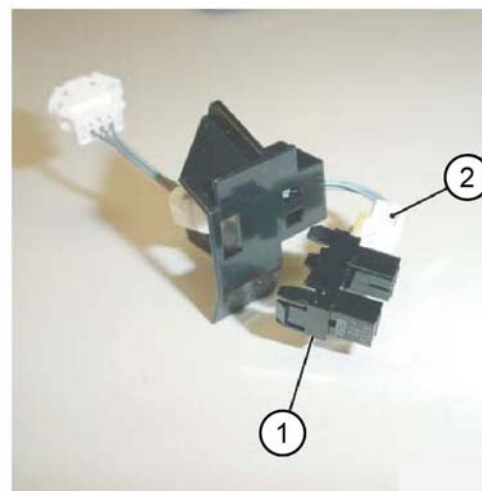

Figure 3 Set clamp home sensor removal
5. Remove the set clamp home sensor, Figure 3:
- a. Remove the set clamp home sensor (1) from the bracket.
- b. Disconnect the connector (2).